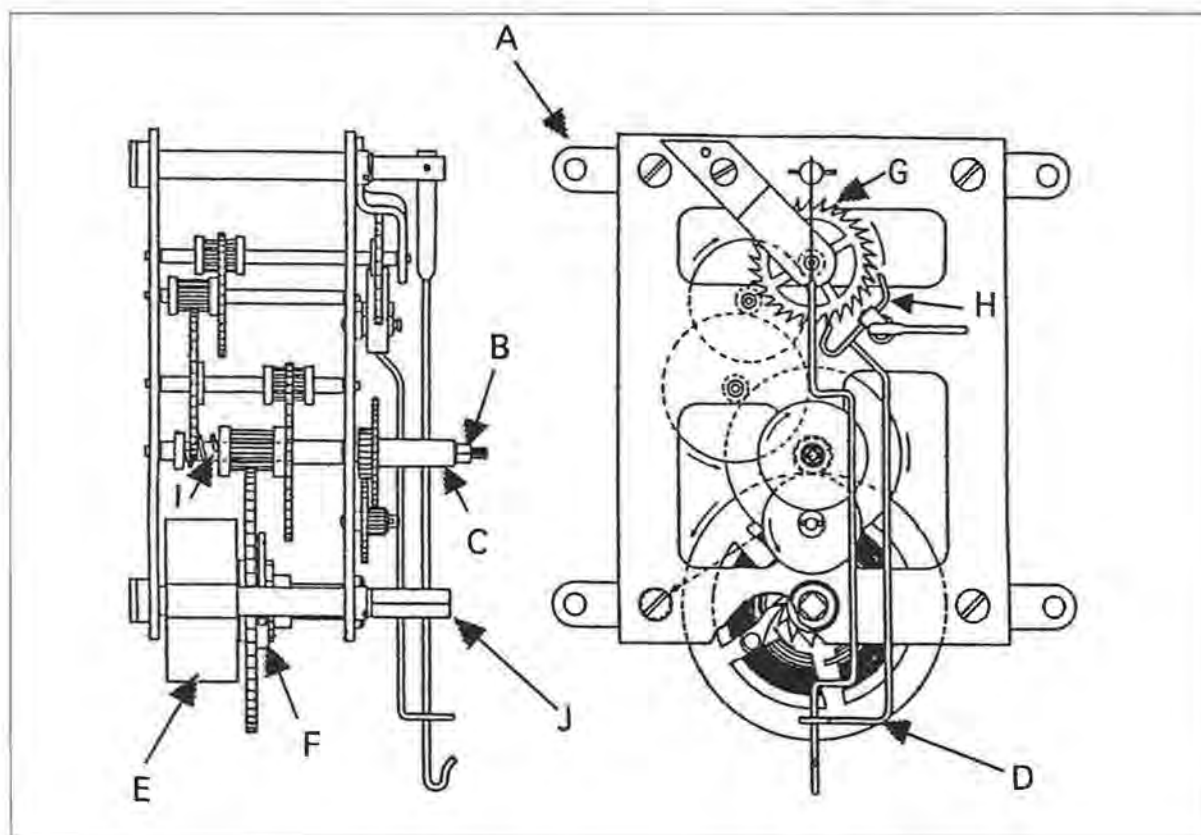

Figure 1. 30-Hour Clock Movement
A 30-hour spring-driven clock movement, as shown in Figure 1, will be used for discussion. This type of movement is found in a wooden case, where it is held in place by four screws passing through brackets (A) that are fastened to pillars in the corners of the back plate. To remove the movement from the case, first remove the hands and dial. The minute hand has a squared hub that fits on an extension of the center arbor (B), where it is held on by a nut or a taper pin that is inserted into a hole through the arbor. The hour hand is fitted to a small tube that is friction-fitted to the hour wheel pipe (C). The dial pan is fastened to the case by three or four small screws. After removing the dial, with the clock upright, give the pendulum another